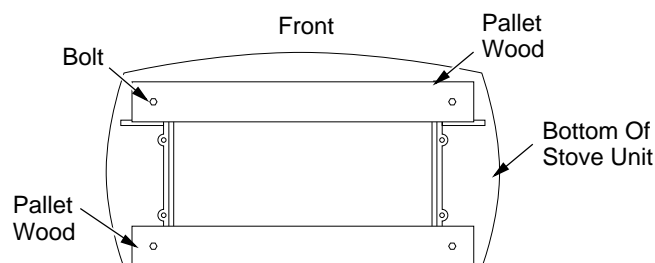

Figure 8 - Removing Pallet Wood From The Bottom of The Stove
8. Remove remaining pallet wood attached to bottom of stove body (see Figure 8). Use an adjustable wrench to remove bolts.